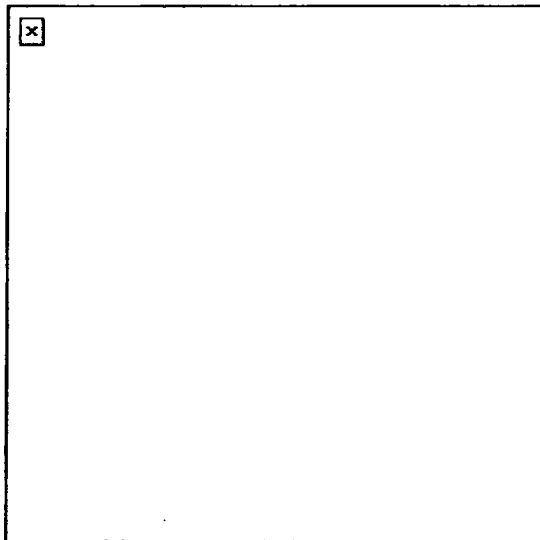

Figure 11. Engagement of area targets, single gun.
- (5) Area target. Initially aim at the midpoint of the target area. Traverse and search to either flank, then traverse and search to the opposite flank (Figure 11).